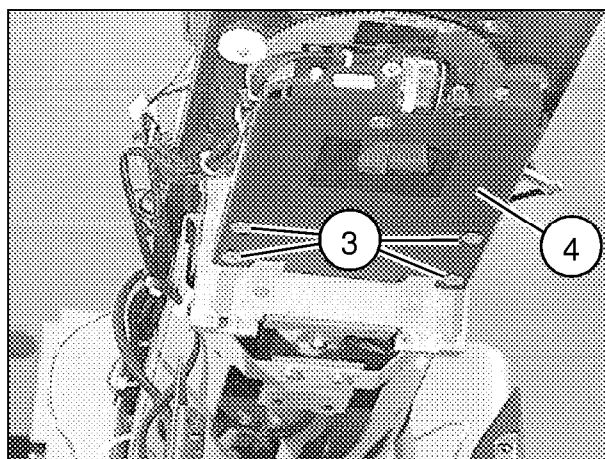

Fig. 9
- Remove the 4 screws (3/Fig.9) on the collimator.
- Carefully lower the collimator (4/Fig.9) (this improves access to the light barrier).